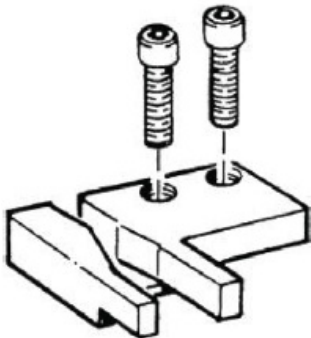
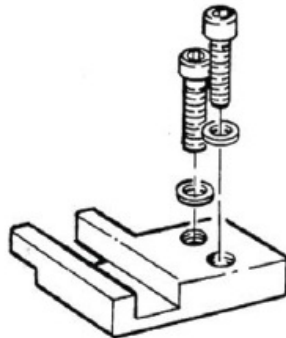

Fig. 4
Fig. 5
- Each set of strap guides consists of an exit (Fig. 4) and a re-entry guide (Fig. 5).